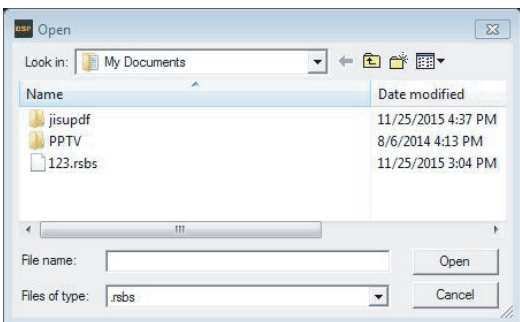

Figure 3.4.7
Step 2: Click "computer import" after entry window will pop open file dialog box (Figure 3.4.7).